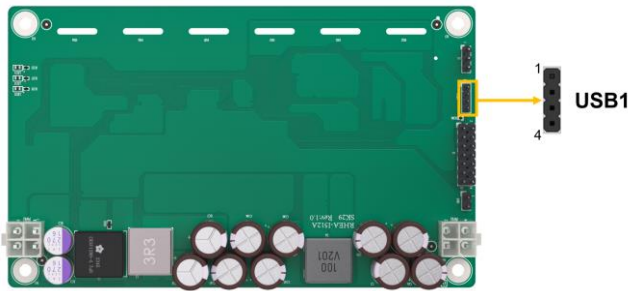

Figure 3-6: USB Connector Location
- CN Location:** See **Figure 3-6**